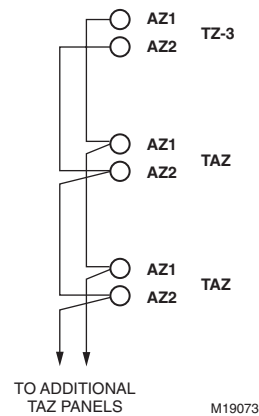

Fig. 13. TotalZone Add-A-Zone wiring.
4. Connect Add-A-Zone panels (if used) to the AZ1 and AZ2 terminals. The AZ1 terminal on the TZ-3 must be wired to the AZ1 terminal on the TAZ panel. Similarly, the AZ2 terminal must be wired on the TZ-3 to the AZ2 on the TAZ. See Fig. 13.
Wire the Add-A-Zone (TAZ) Panel to the TotalZone (TZ-3) Panel as shown in Fig. 13. Up to nine TAZ Panels can be wired to one TZ-3 panel. See Fig. 13.